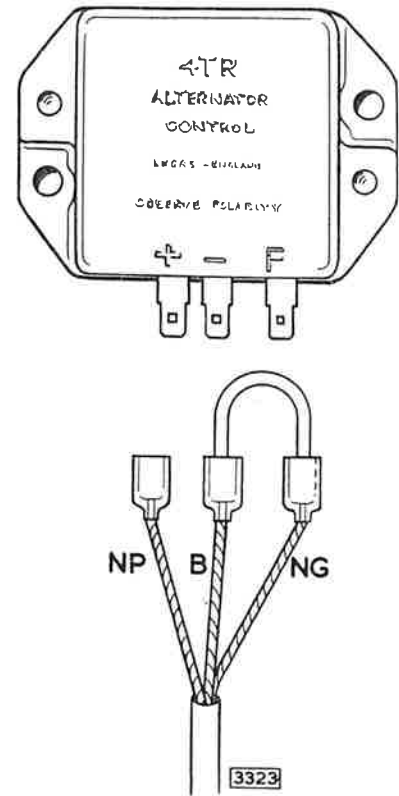

Fig. 3. Detach the terminal connectors from the base of the control unit.
- Detach the terminal connector block from the base of the control unit and connect the black and brown/green cables together by means of a short length of cable with two Lucar terminals attached. This operation connects the alternator field winding across the battery terminals and by-passes the output control unit (Fig. 3).